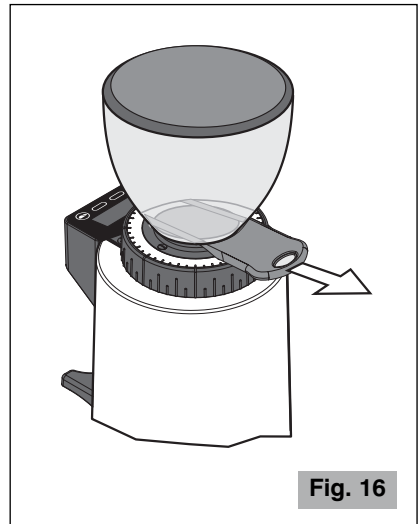

Fig. 16
**Make sure** that shutter is completely open (to the last click) (see Fig. 16).